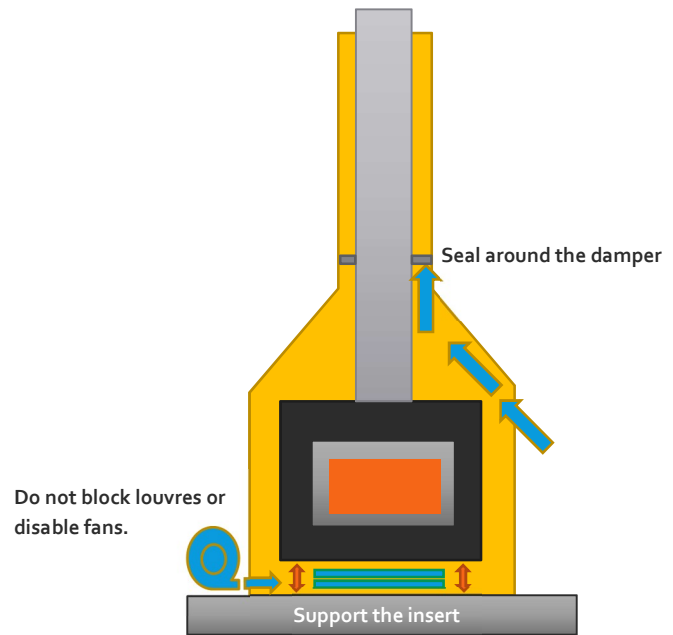

Figure 1
5. Airflow: Factory built fireplaces have convection louvres, air duct systems and fixed blowers that **cannot be blocked or disabled in any way** (Figure 1).
6. Sealing the damper: You must not allow room air to pass into the chimney of the fireplace. Seal the damper area around the chimney liner (Figure 1).
8. If the insert protrudes from the face of the fireplace, it must be appropriately supported (Figure 1).